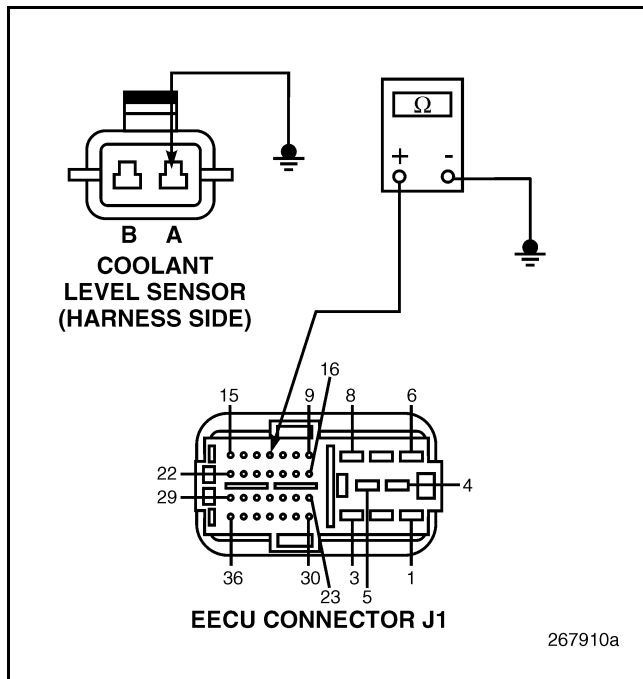

Figure 110
4. Connect a jumper between pin A on the harness side of the Coolant Level Sensor and a known good ground (see Figure 110).